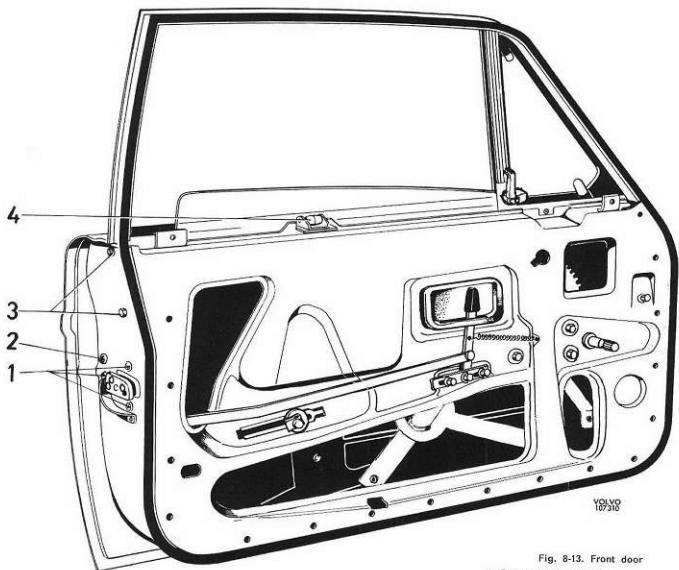

Fig. 8-13. Front door
Remove the door stop in accordance with the instructions under "Removing and fitting door stops". Unscrew the bolts between the hinges and door. The bolts are accessible when the door is opened. The door can then be taken off (Fig. 8-13).
2. Remove the lock cylinder by unscrewing its attaching screw (2, Fig. 8-13) which is fitted in the rear edge of the door.
6. Unscrew the two screws (3, Fig. 8-13) for the rear winder rail on the edge of the door.
7. Unscrew the three screws for the door lock. These screws (1, Fig. 8-13) are placed on the rear edge of the door.